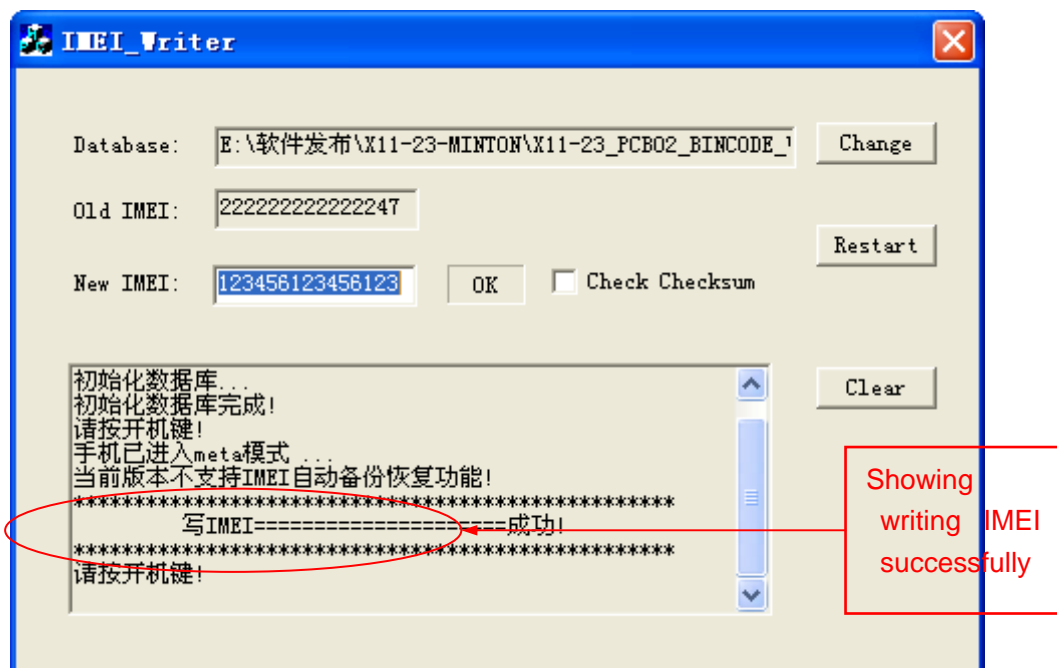

Figure 1-5
1.2 after several seconds, figure 1-5 occurs to show the slave phone is written to the phone successfully..
2.3 after several seconds, figure 1-5 occurs to show the slave phone is written to the phone successfully.
If the right database file has already been choosed, click the “restart”, input the IMEI of the phone, click “Restart”, after 3 seconds plug the phone cable connector to the phone and power on the phone. after several seconds, figure 1-5 occurs to show the slave phone is written to the phone successfully.